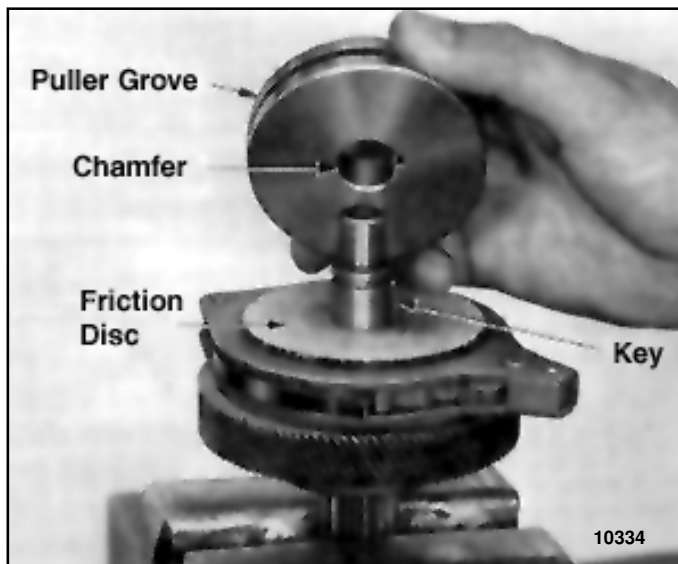

Figure 5-7. View Showing Load Brake Flange Removed
- (2) Using a puller tool, remove brake flange from shaft. A groove is provided around outer diameter for this purpose. See Figure 5-7. Remove key from shaft and lift off 2 friction discs, and the pawl and ratchet assembly (Figure 5-8).
- (3) When installing brake flange, position it with chamfer facing friction disc (Figure 5-7).